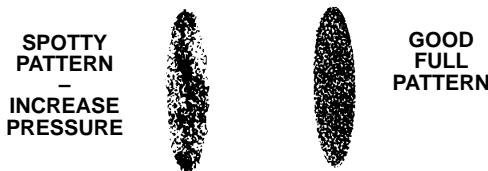

Fig 11-1
- a. Increase the pressure setting just until spray from the gun is completely atomized. See Fig 11-1. To avoid excessive overspray and fogging, and to decrease tip wear and extend the life of the sprayer, always use the lowest possible pressure needed to get the desired results.